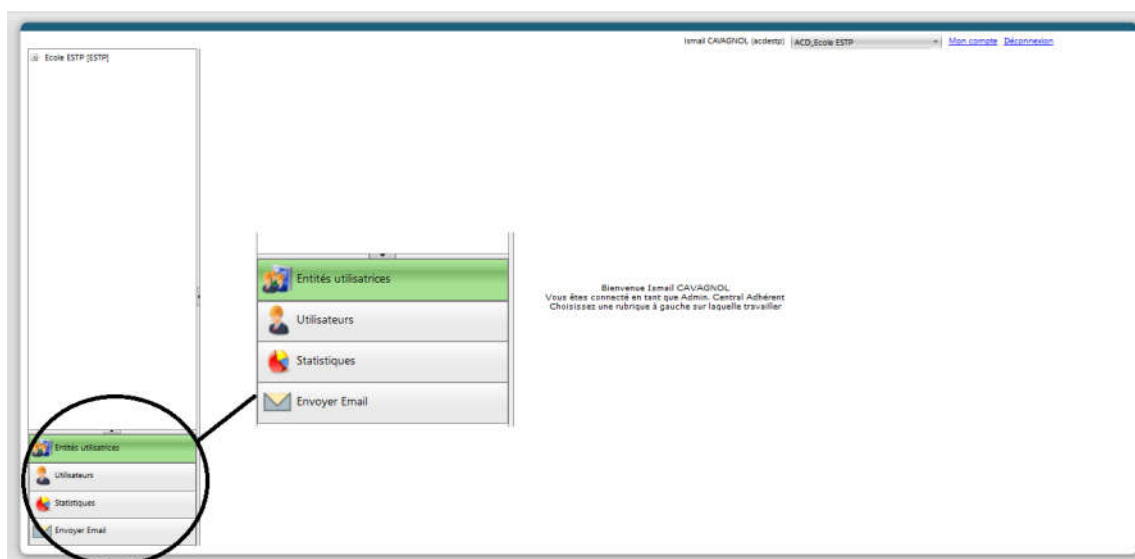

Figure 9 – Managing Central Administrator Environment in SEVE
The ACD is the first person to use SEVE. As such, it is the privileged contact between the SEVE users of its user entities (EU) and the ACU. In order to access the ACD profile, you must connect with your ACD Login (provided by 'ACU) and Password (which you have chosen via the internet link registered in the SEVE automatic email) on [www.seve-tp.fr](http://www.seve-tp.fr) (Figure 7), you connect in the SEVE ACD configuration described in Figure 9.
The ACD has the ability to navigate the tabs on the left side of the screen (Figure 9):